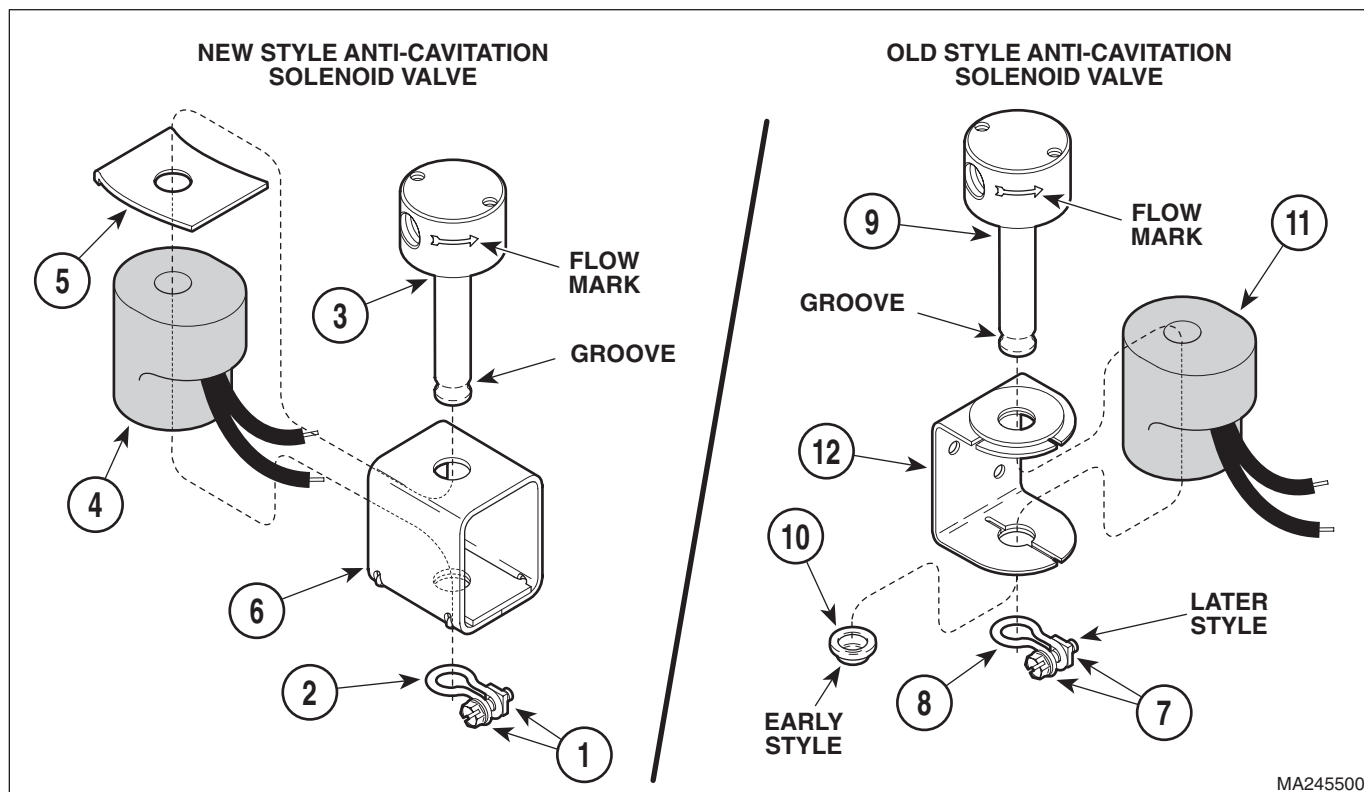

Figure 4-47. Old Style Ant-Cavitation Solenoid Valve Rebuild
- (1) Loosen screw (1, Figure 4-47) and remove wire clip (2) from groove of solenoid valve (3).
- (2) Remove solenoid valve (3), coil (4), and spring tab (5) from bracket (6).
- (1) Loosen screw (7, Figure 4-47) and remove wire clip (8) from groove of solenoid valve (9) or remove locking cap (10) from groove of solenoid valve (9).
- (2) Remove solenoid valve (9) and coil (11) from bracket (12).
- (1) Install new coil (4, Figure 4-47) and solenoid valve (3) on bracket (12).
- (2) Install wire clip (2) on groove of solenoid valve (3) and secure by tightening screw (1).